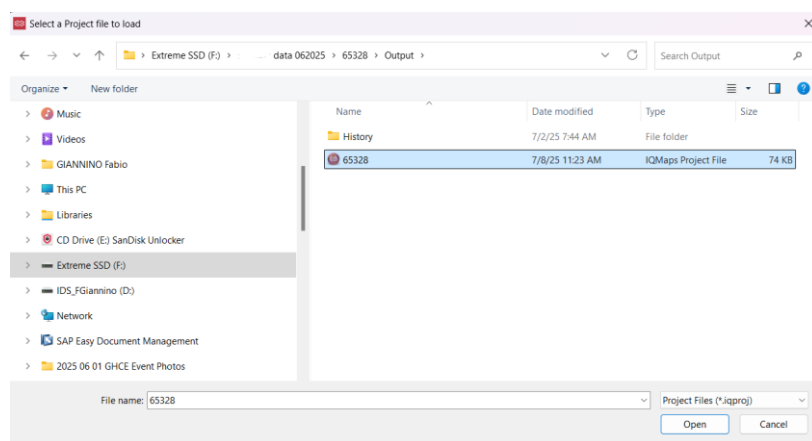

Fig. 36 Open a Project
- Follow the path where project was saved and select the *.iqproj file (Fig. 36) to be open.